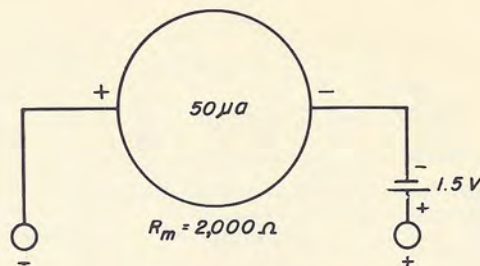

Fig. 11-14
Step 1. Examine the schematic diagram shown in Fig. 11-14. From what you learned in Theory Lesson 11, you may recognize the circuit as a basic ohmmeter circuit. Notice that only the resistance of the movement and the voltage of the battery are shown in the figure. Calculate the current that would flow in this circuit if the test probes were shorted together. Read no further until you have completed your calculations.